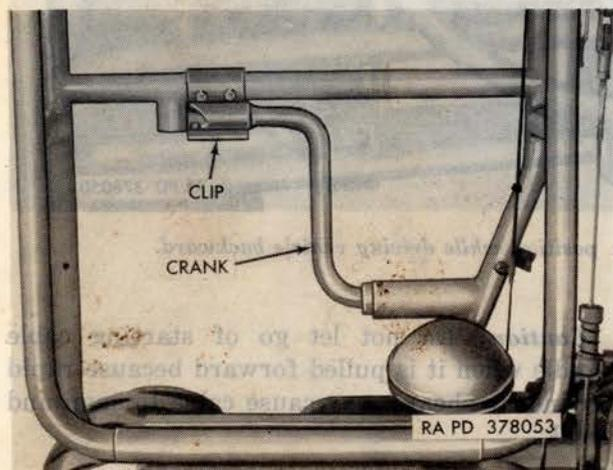

Figure 20. Emergency starting crank stowed on foot rest.
18. Emergency Starting Crank (fig. 20)